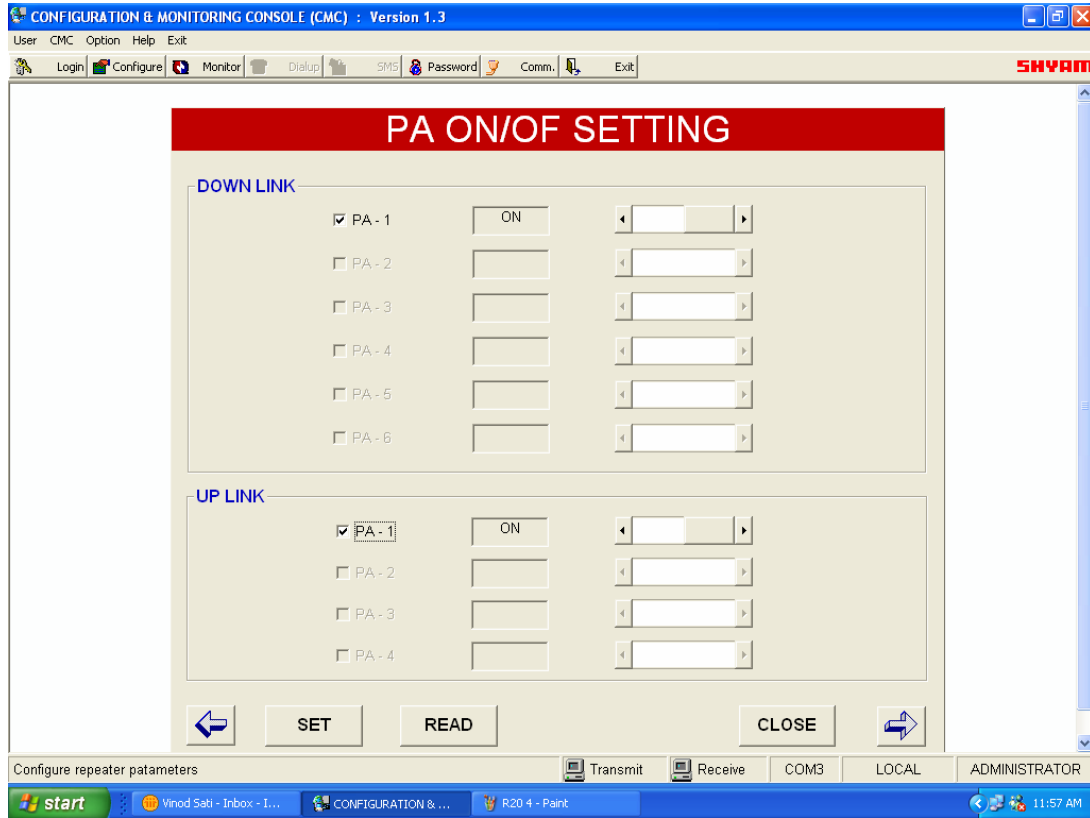

Figure 8: PA ON/OFF Settings
e) PA ON/OFF Settings (Figure 8)